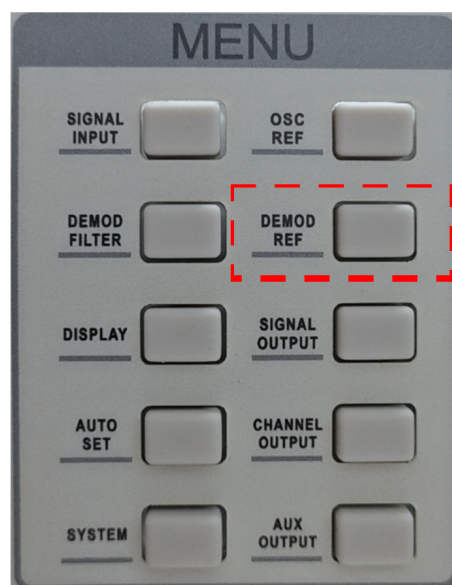

Figure 102. Location of the [DEMOC] Submenu
4. Press the [DEMOC REF] key on the front panel, shown in Figure 102, to enter the sub-menu.